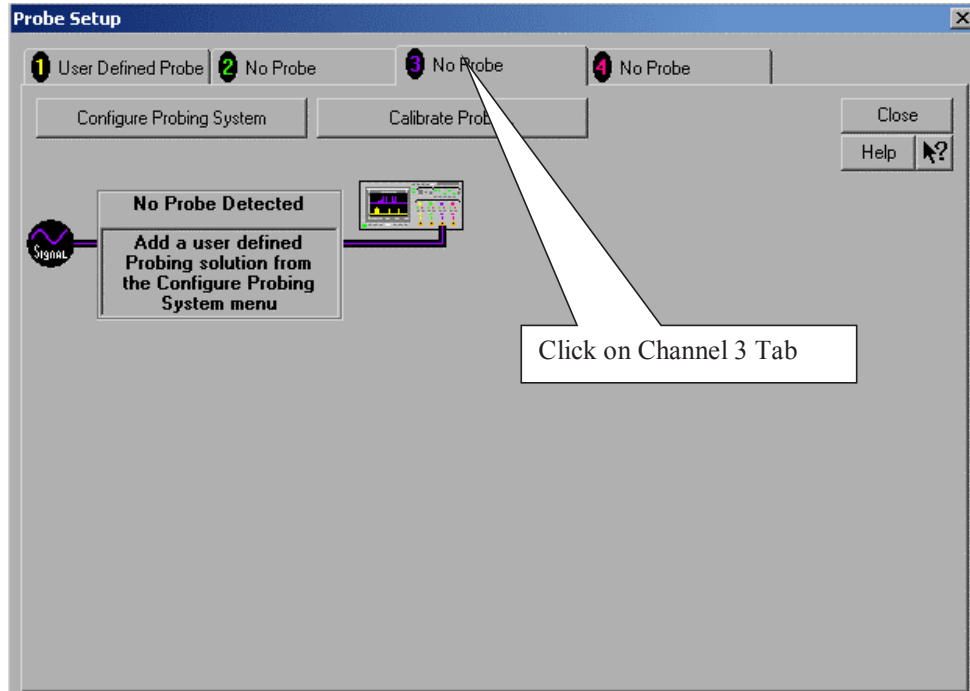

Figure 121 Calibration Window.
- 12 Referring to Figure 121 below, perform the following steps:
- 15 Click the Close button on the Probe Setup window (Figure 121) to close this window.